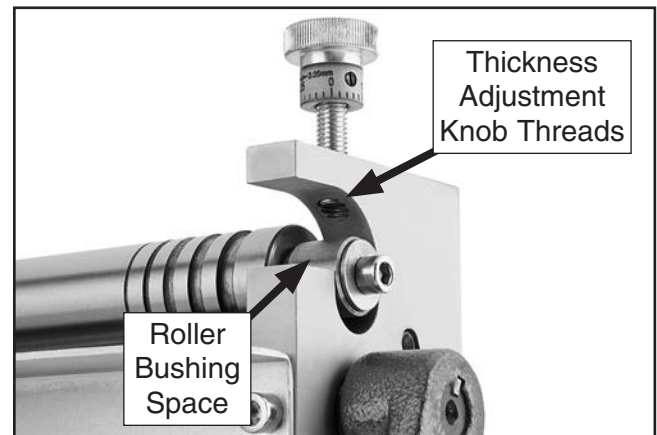

Figure 20. Thickness adjustment knob unthreaded from bushing space.
1. Rotate both thickness adjustment knobs so that the threads no longer protrude into the roller bushing space, as shown in **Figure 20**.